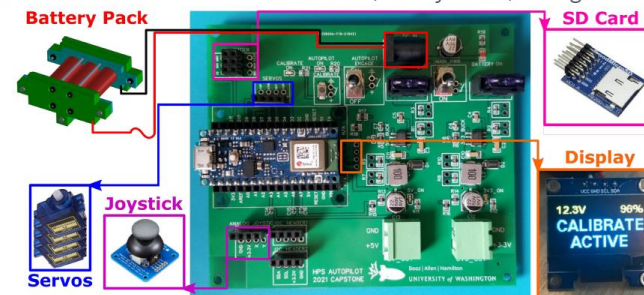

Figure 6: Power System Custom PCB
- Chose Arduino Nano 33 BLE with 9 Degrees of Freedom (DoF) Inertial Measurement Unit (IMU) (Figure 6)
- Custom PCB integrates: Arduino microcontroller, 12V DC power source, and autopilot peripherals (Figure 6)